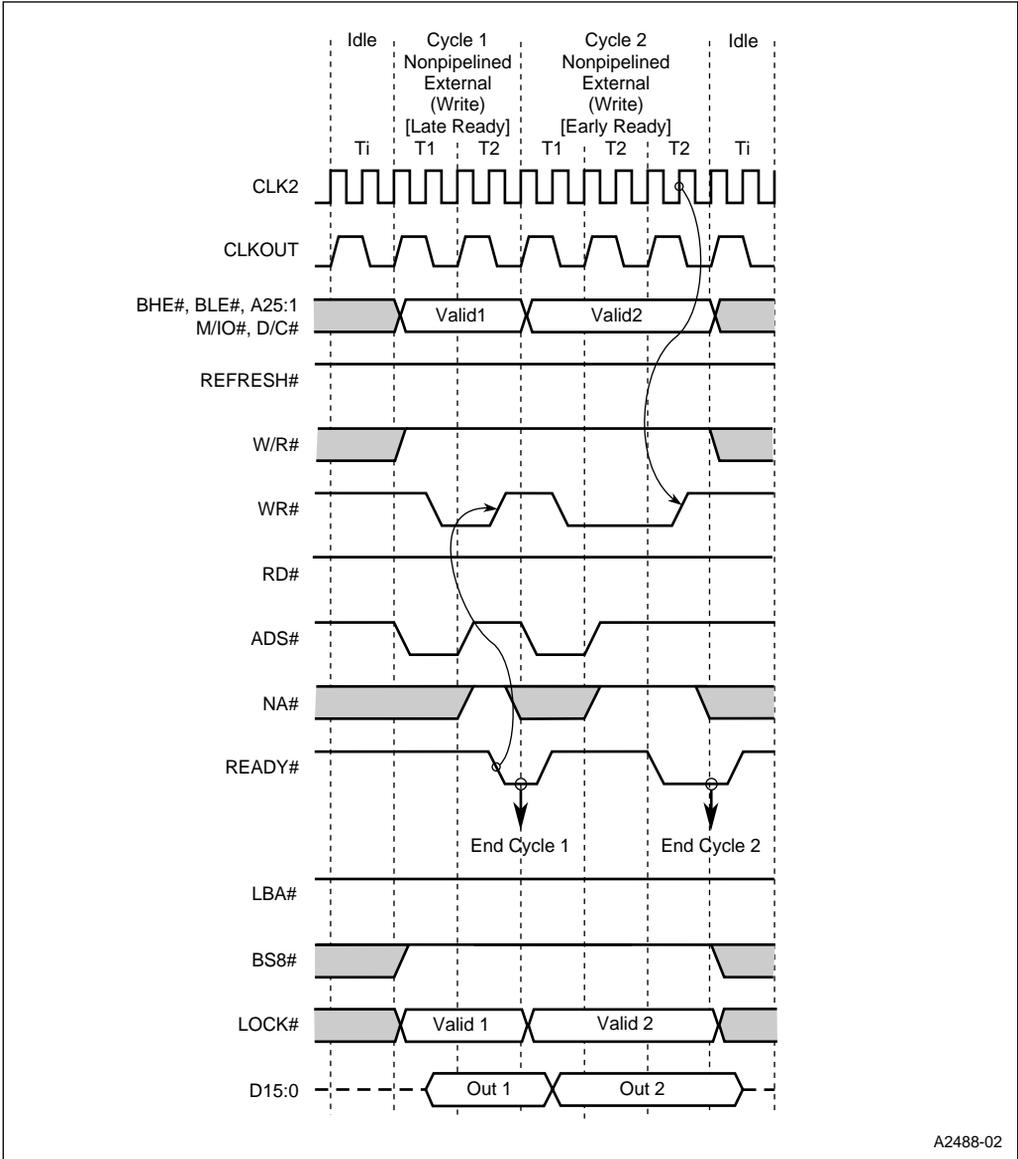

Figure 6-6. Nonpipelined Address Write Cycles
- **Nonpipelined.** Figure 6-6 shows two nonpipelined write cycles (one with and one without a wait state).